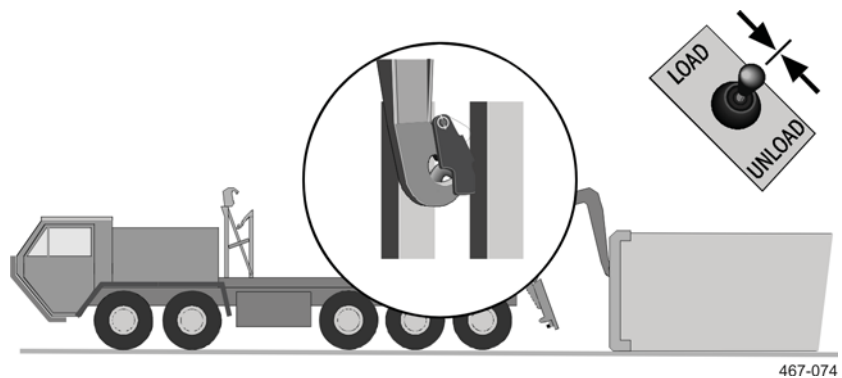

Figure 24. Hook Surrounds Bail Bar.
7. Release joystick (Figure 24, Item 2) when front of container (Figure 24, Item 4) is on ground and hook (Figure 24, Item 1) still surrounds bail bar (Figure 24, Item 3) but is no longer making contact with it.